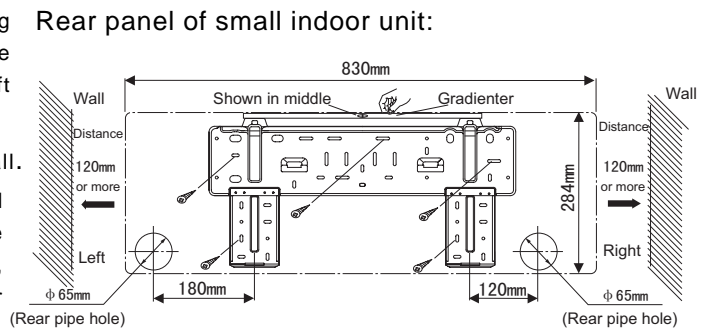

Fig.9-1
- After determination of the location hole for auxiliary pipe (Fig.9-1), drill a hole inclined outward ($\phi 50$).